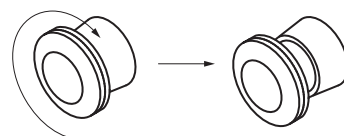

Fig. 2.2 Releasing the **E-STOP** button.
3. Make sure that the **E-STOP** button is released. If not, turn it clockwise as much as possible and release it. (fig. 2.2).